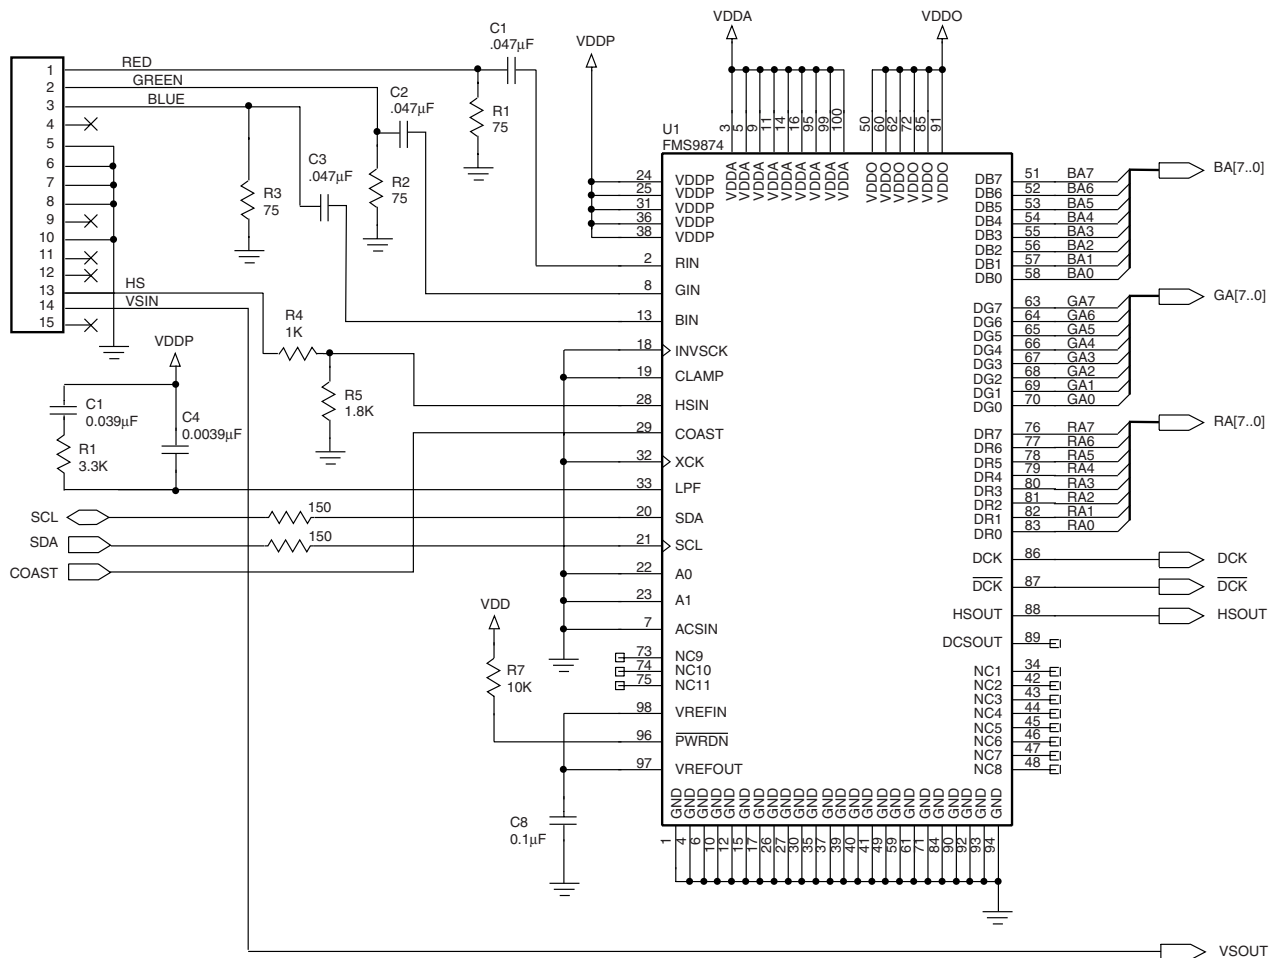

Figure 24. Schematic, VGA Digitizer, AC Coupled RGB
Shown in Figure 24 is an implementation of a video digitizer with AC coupled RGB inputs. Horizontal sync input, HS is passed through a voltage divider which attenuates the 5.0 V logic HIGH excursion to the 3.3 V HIGH input level of the FMS9874A. Vertical sync bypasses the FMS9874A.
3. Each V_{DDP}/GND pin pair: 24&25/26, 31/30, 36/35, and 38/37 should be decoupled with either a 0.01 μ F or a 0.1 μ F capacitor (see Figure 24). If board space is limited, use as many capacitor pairs as possible.